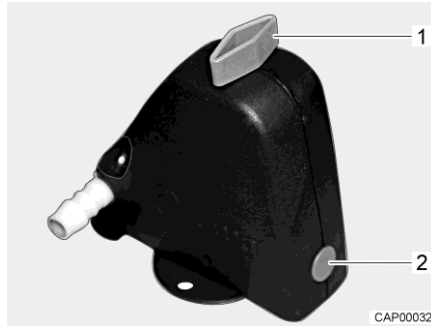
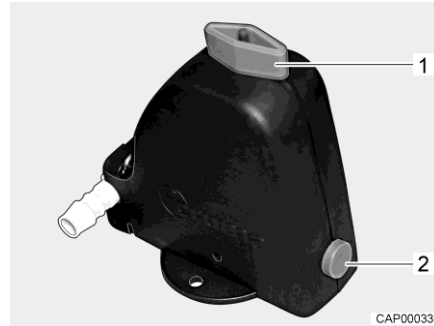

Fig. 120 Safety/drainage valve closed
Fig. 121 Safety/drainage valve open
- Open the safety/drainage valve (Fig. 120). To do this, turn the knob (Fig. 120,1) parallel to the safety/drainage valve. The push button (Fig. 120,2) jumps out. The open safety/drainage valve is shown in Fig. 121.